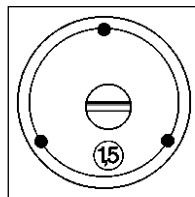

Figure 5: Selecting the lift (except series SK 14 and SK 15)
10. **Setting of the lift (except SK 14, SK 14 short und SK 15):** Open the rear cap of the gun. Behind it there is an adapter screw for adjusting the lift in steps of 0.5 mm. (figure 5). **Do not set any in-between values!** Select lift settings according to figure 2.
A frequent fault is a so-called plunging impediment. It occurs whenever the plunging movement of the stud is cut short and the stud comes to a halt above the welding pool (see chart 2 figure 4). In case of only a minor impediment the plunging of the stud may not be stopped, but delayed. In this case a “cold weld“ with an incomplete connection may result, without any faults showing on the outside (chart 2 figure 5). Therefore the final assessment of a weld should never be made on the basis of visual tests alone, without mechanical tests being carried out as well.